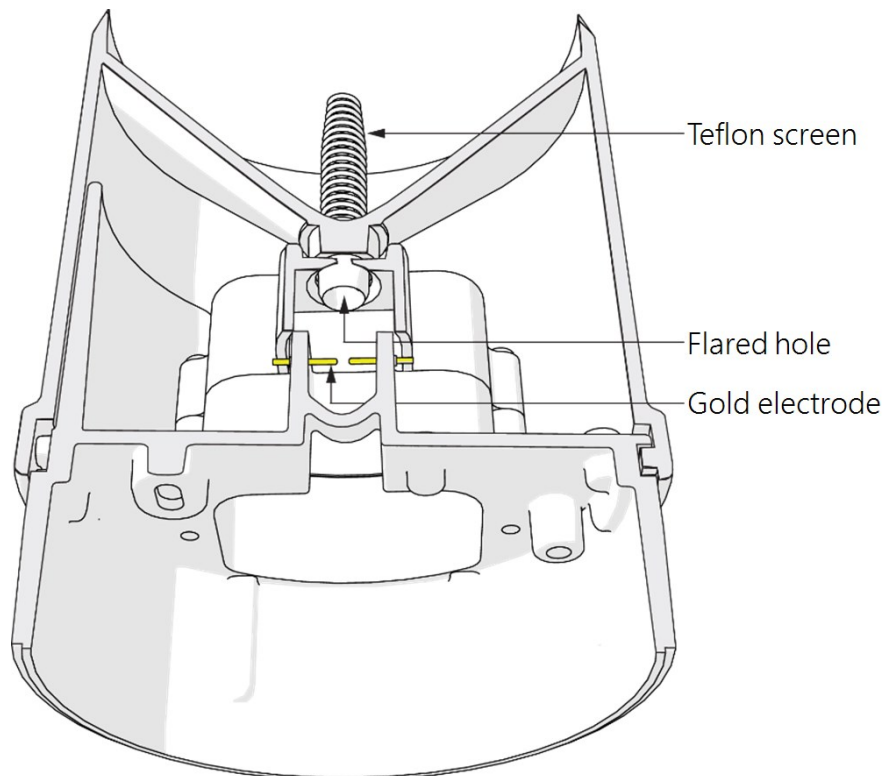

FIGURE 9-5. Rain gage cutout
- c. Check the downspout for debris (FIGURE 9-5 (p. 34)). Use a pipe cleaner or small soft brush to clean the downspout.